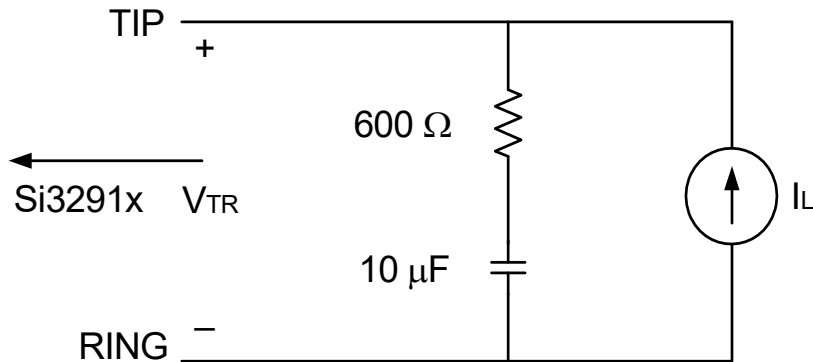

Figure 1. Test Circuit for Loop Characteristics
1. Measured at TIP and RING with 600 Ω termination at 1 kHz, as shown in Figure 1 on page 12.
For Figures 1–5, all filter plots apply to a sample rate of $F_s = 8 \text{ kHz}$.